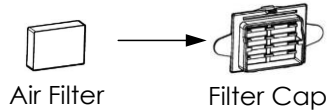

Fig. 10-1
(1) Attach the air filter to the filter cap, as shown in Fig. 10-1.